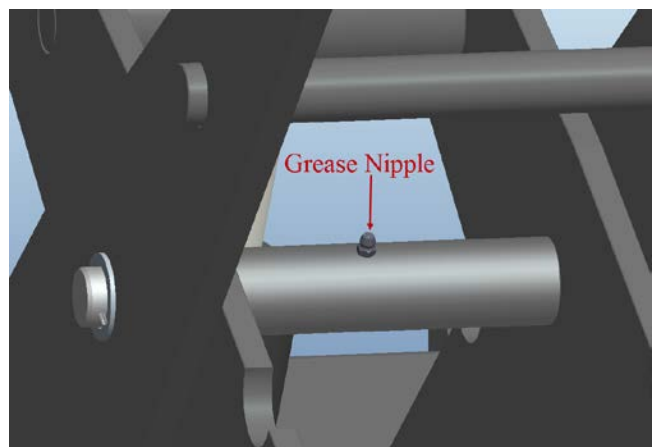

Figure 9-Center Hinge Nipple
4. Add grease to center hinge nipple, see Figure 9.